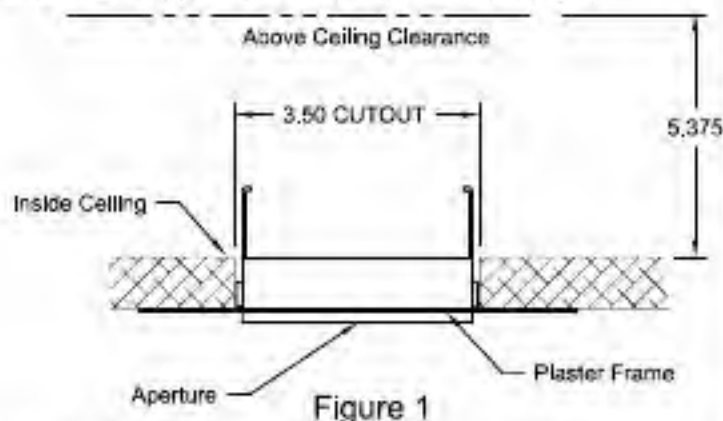

Figure 1
1. Check for Above Ceiling Clearance of 5.375. See Fig. 1.
2. Make 3.50 diameter Cutout in Ceiling. See Fig. 1.
1. Insert Plaster Frame into Cutout in Ceiling. See Fig. 1.